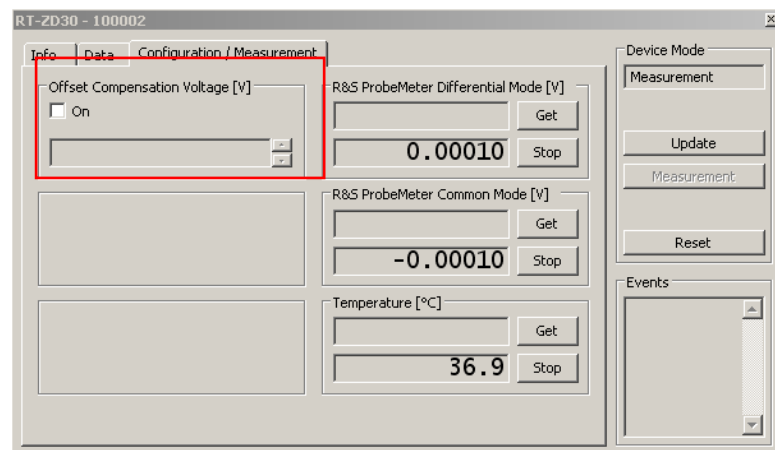

Figure 1-5: R&S RT-Z device manager, offset compensation voltage
- ▶ Open the Configuration / Measurement (see Figure 1-5).
- ▶ Check if the offset compensation voltage” box” is deactivated (see Figure 1-5).